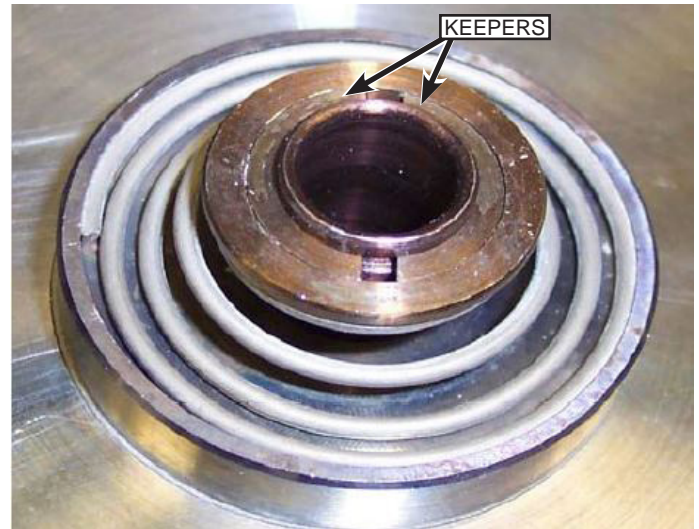

Fig. 104: Keeper Installation
2. Position the valve spring and valve spring retainer into place on the suction valve. Press down on the spring retainer to insert the keepers. Refer to Fig. 104.